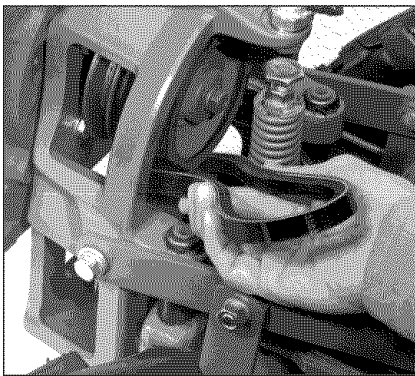

Figure 5-20: Shift into FORWARD and remove the belt.
6. Push the Wheels/Tines/PTO Drive Lever down into the FORWARD position. This increases the distance between the upper and lower pulleys. Next, lift and pull the entire belt out between the pulleys (Figure 5-20).
2. Squeeze the belt in the middle and insert one end in between the pulleys (Figure 5-20).